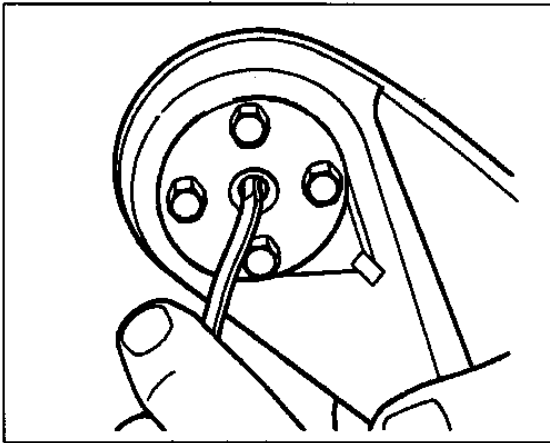

Figure 27 Release and Remove Wire/Contact Assembly
3. Place the stripped end of the wire into the crimp barrel of the contact. Fully depress the tool handles. Release and remove wire/contact assembly (Figure 27).